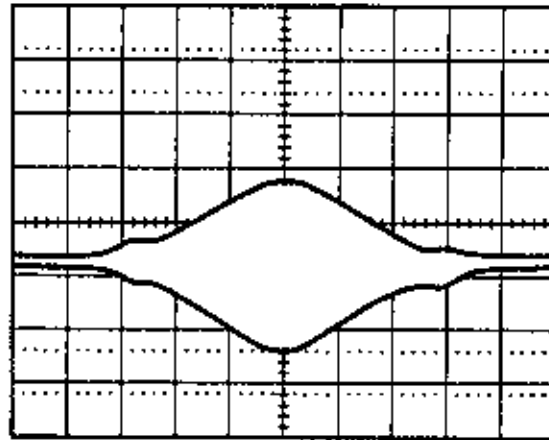

Figure 5-35. 50 MHz Birdie
5. Adjust oscilloscope Channel B vernier for a horizontal deflection of exactly 10 divisions. Set 8350A/B CF=1GHz,  $\Delta F=10$  MHz. Select 50 MHz Markers. Center the birdie envelope on the screen with plug-in front panel FREQ CAL control. (See Figure 5-35.) Then select 10 MHz Markers. Change  $\Delta F$  to 1 MHz. Recenter birdie. Display is now calibrated for 100 kHz/Division.